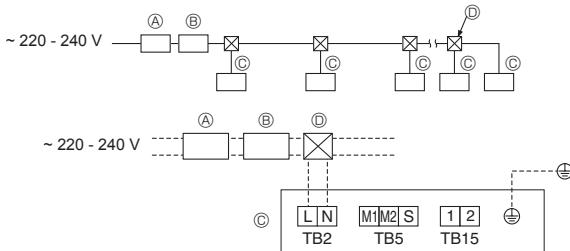

Fig. 5-11
5.3. Power supply wiring (Fig. 5-11)